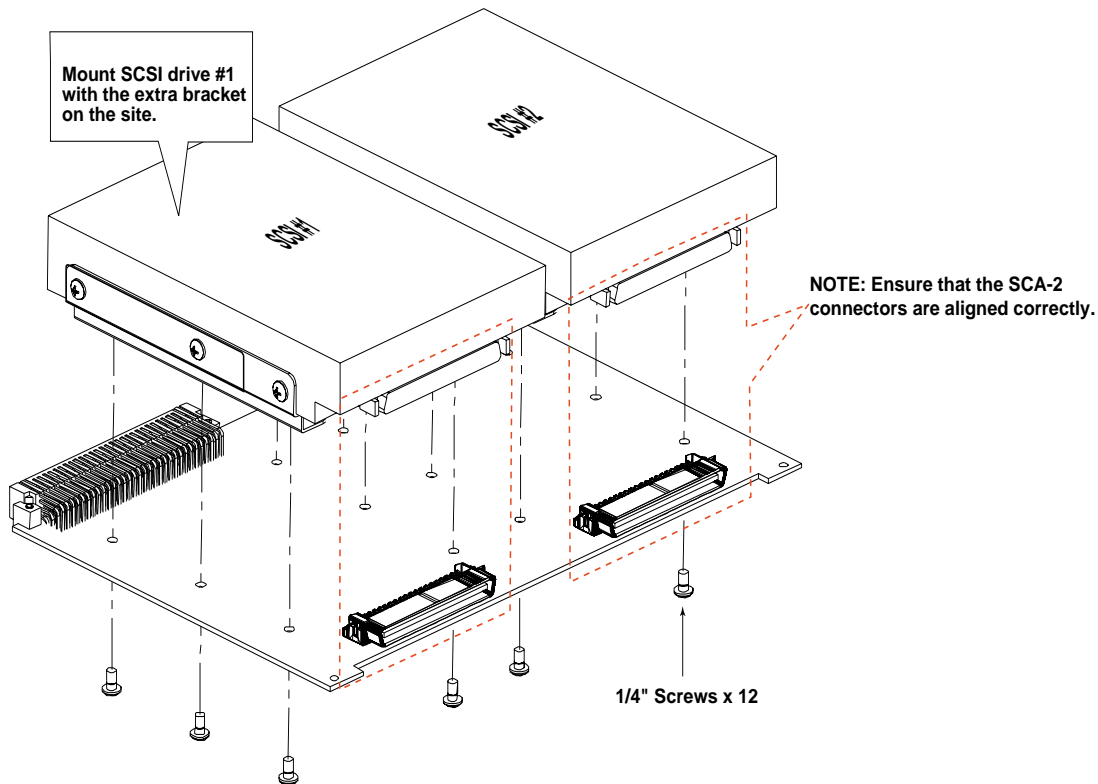

Figure 1-9 Mating the SCSI Drives to the Carrier
4. After installing the brackets on the hard drives, mount the drives on the carrier using the 12 supplied screws. See Figure 1-9 below for an illustration of the installation. When installing the hard drives on the carrier, ensure that the SCA-2 connectors on both the hard drives and the carrier are aligned correctly or the daughter card will not fit properly.